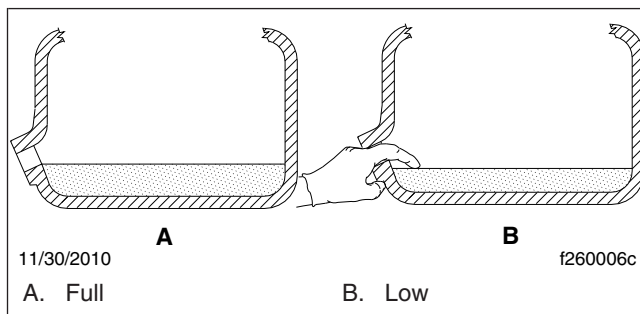

Fig. 3, Checking Transmission Fluid Level
6. Add fluid until it is level with the lower edge of the fill opening; see Fig. 3. See Table 1 for approved transmission lubricants, and Table 2 for transmission lubricant capacities.
2. Using your finger or a bent pipe cleaner, see if the fluid is level with the fill opening. See Fig. 3.